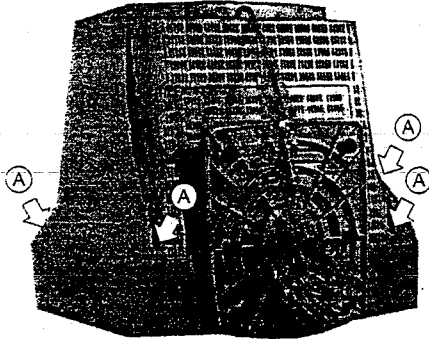

Figure 2-1 Remove the Rear Cover
1. Remove the four screws at the rear cover. Refer to the figure 2-1 (A).